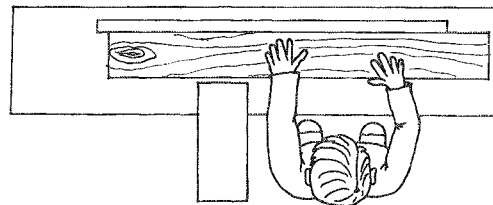

Fig. 3.25 Piano player feeding method.
- *The piano player* – who stands facing the infeed table with both hands straight out on the timber (**Fig. 3.25**).